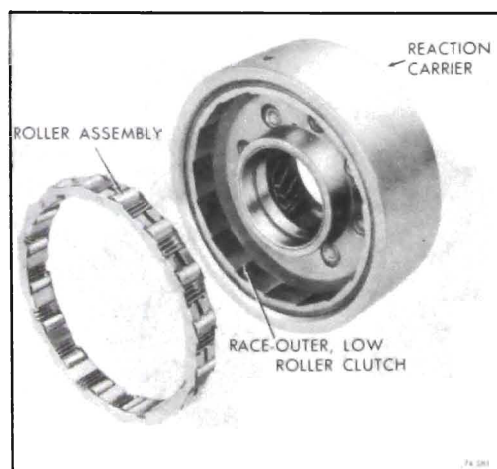

Figure 76-581
2. Inspect roller clutch outer race for scoring or wear. See Figure 76-581.